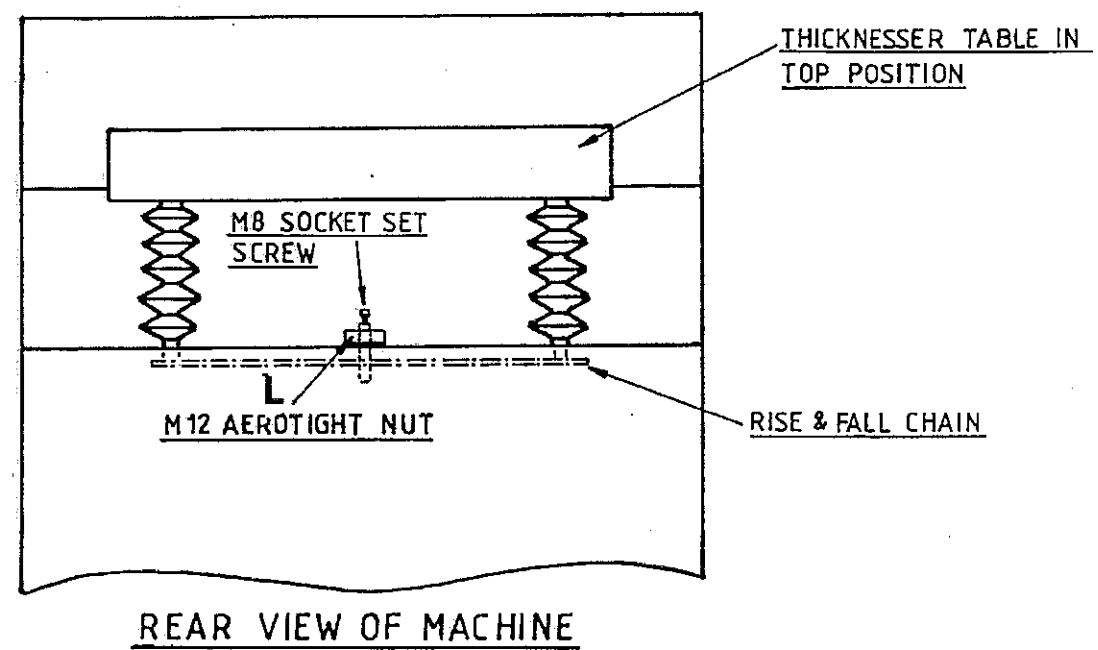

FIG.34
- c) Loosen M12 aerotight nut "L" FIG.34 and turn M8 grubscrew until correct tension is achieved.